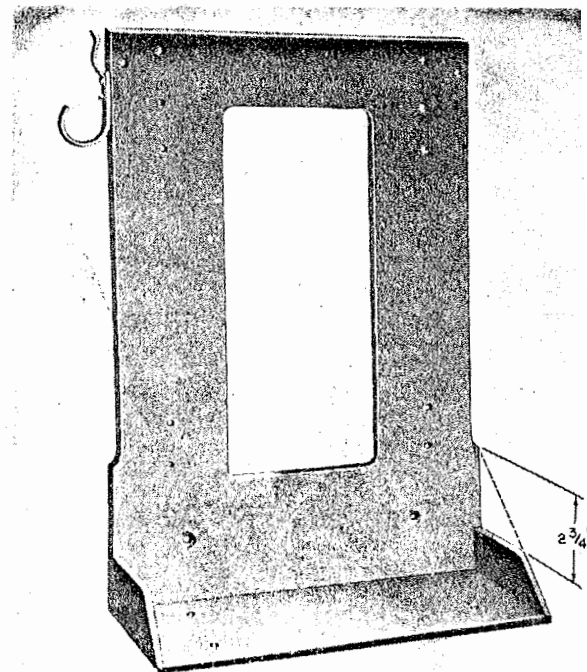
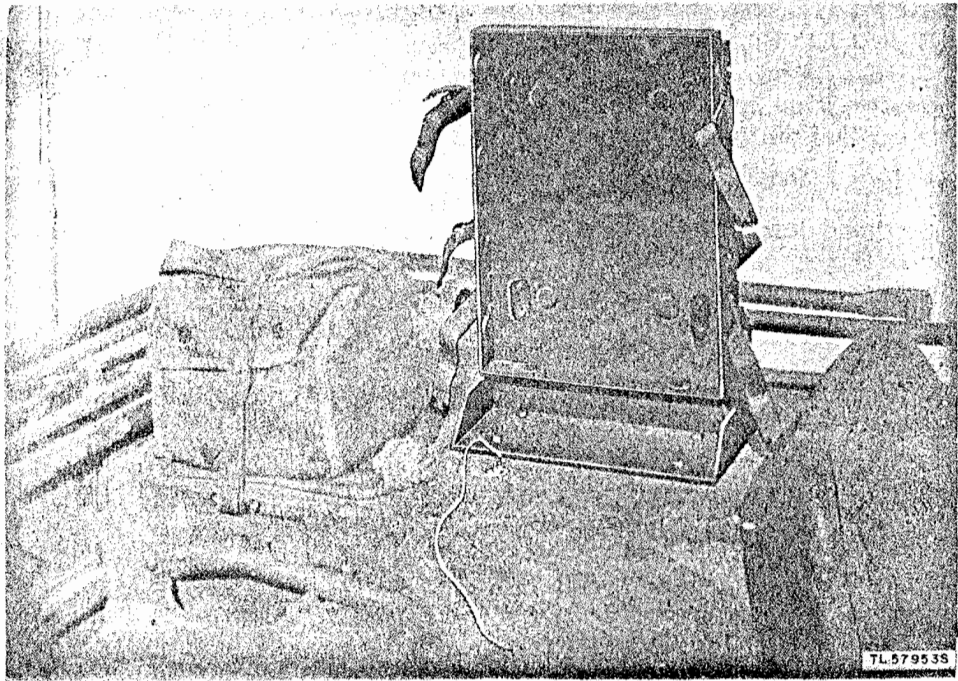

Figure 45. Frame FM-85, with gussets notched to accommodate mounting MT-350/GRC-9.
Figure 46. Mounting MT-350/GRC-9 and modified frame FM-85, installed in vehicle.
b. Use Mounting MT-350/GRC-9 to support and shockmount the receiver-transmitter. Mounting MT-350/GRC-9 is fastened directly to a vertical surface in the vehicle, using the screws provided. If a horizontal surface is selected, install Mounting MT-350/GRC-9 on Frame FM-85 (Signal Corps stock No. 2Z4660-85), modified as shown in figure 45. Figure 46 shows the mounting and frame installed in a vehicle.